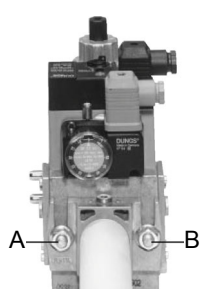
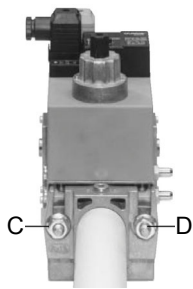
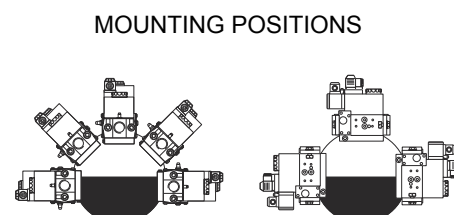

Fig. 2
Fig. 3
Fig. 5
3. tighten screws A, B, C and D (Fig. 2 - Fig. 3), according to the mounting positions (Fig. 5);